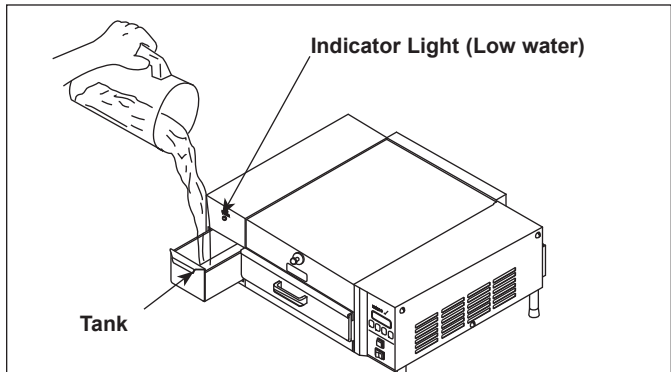

Figure 3. Filling Water Tank–MS-355
**MS-355:** Open the sliding tank drawer on the side of the unit (Figure 3).